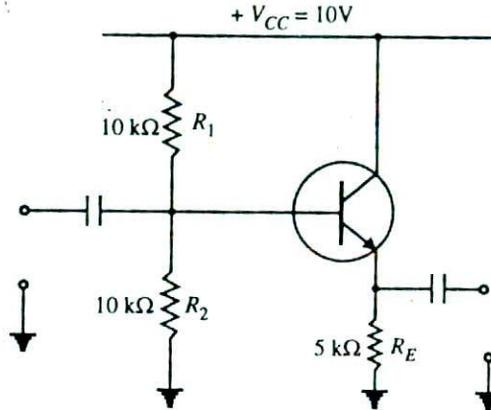

Fig. 15.18
**Example 15.17.** Determine the voltage gain of the emitter follower circuit shown in Fig. 15.18.